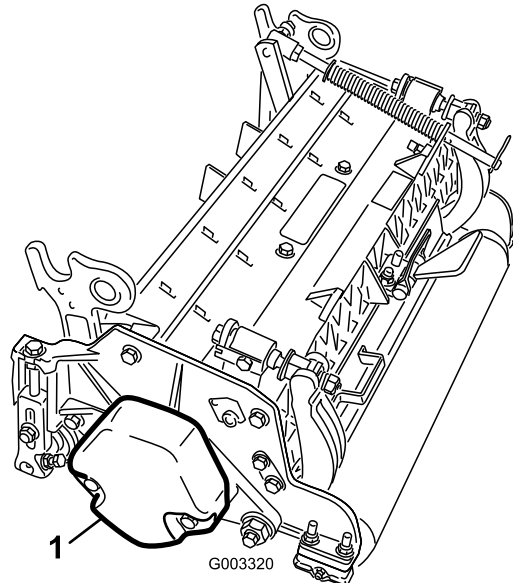

Figure 4
4. Make sure that the counter weight (Figure 4) is installed to the proper end of each cutting unit as described in the *Operator's Manual* for the cutting units.